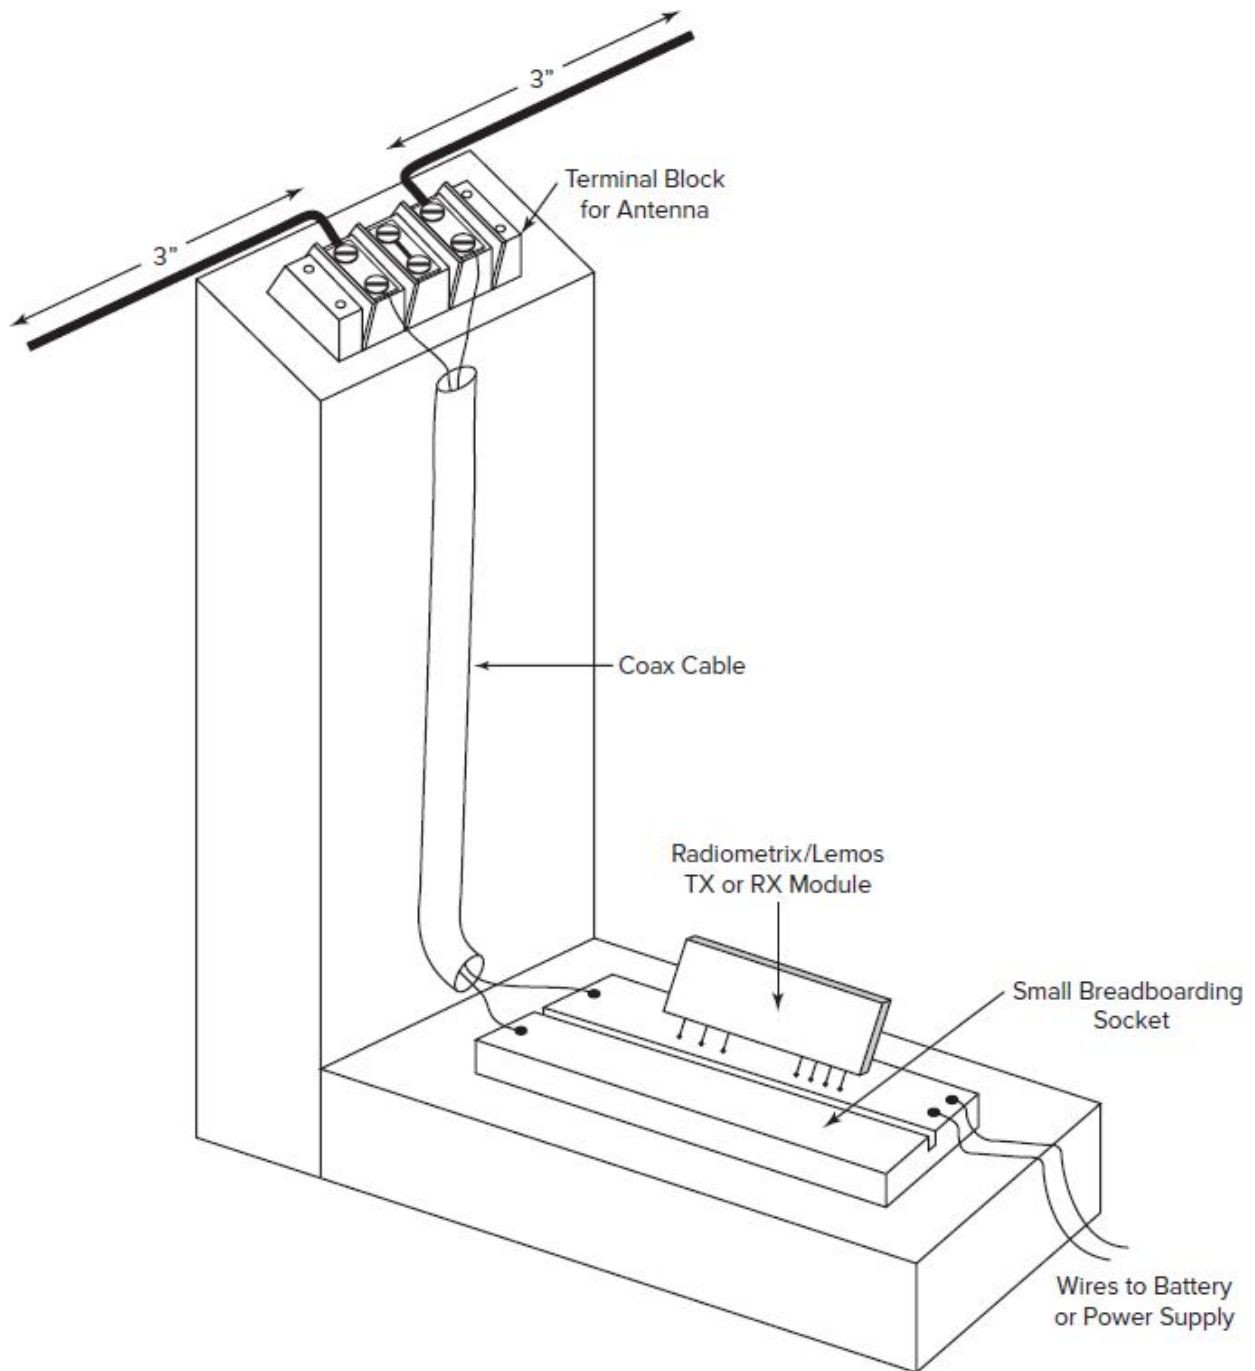

Fig. 16-6 Dipole antenna for RX and TX.
3. Construct the transmit antenna, using the #14 wire and coax. Figure 16-6 shows the details of a standard half-wave dipole. The antenna length is determined with the familiar formula $L = 468/f_{\text{MHz}}$, where L is the length in feet and f is the operating frequency in MHz. Multiply your value by 12 to get the dimension in inches. Cut the wire to that length plus about 1 inch and cut that in half. The extra 1 inch is divided between the two pieces and provides sufficient length to attach to the screw terminals. The antenna elements are screwed to the two outer terminals of the strip as shown. This also provides a convenient way to connect the coax to the antenna. The coax should be kept as short as practical, no more than about 1 ft. Connect the coax to the breadboarding socket with short pieces of #22 solid hookup wire that can be soldered to the coax leads.
4. Construct the receiving antenna just as previously described in step 3 and Fig. 16-6.
19. Disconnect the ground plane antenna from the terminal block. Replace the two segments of the dipole so they are connected to the coax as before in Fig. 16-6.